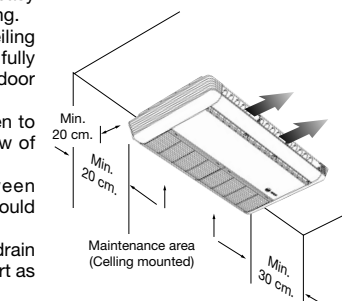

Figure 2
6. Recommended service clearance as shown in figure 2, 3 and 4.